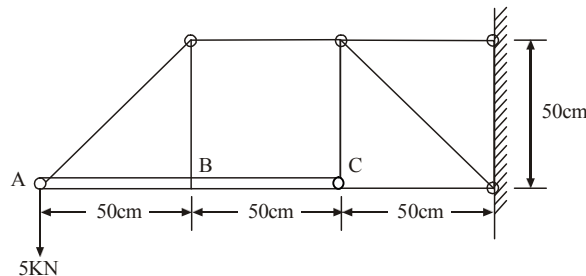

Fig. 1
3. Find the reactions on member ABC and the loads in other members of the beam-truss structure (See Figure 1). Note that ABC is a continuous beam.